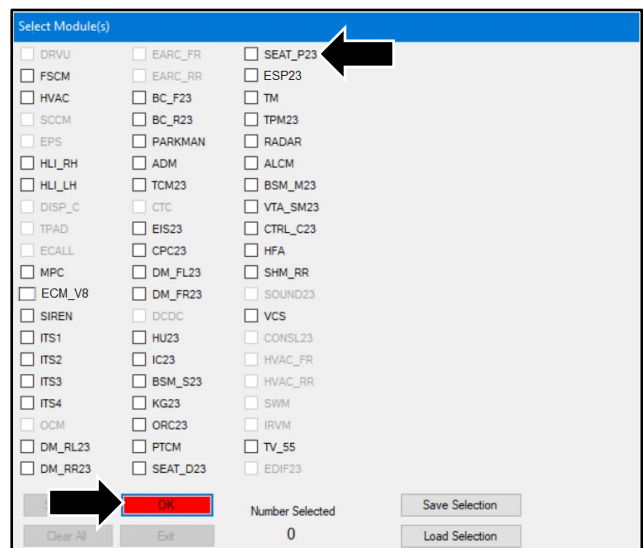

Figure 2
5. Select the “SEAT\_P23” module then click “OK” (refer to Figure 2).